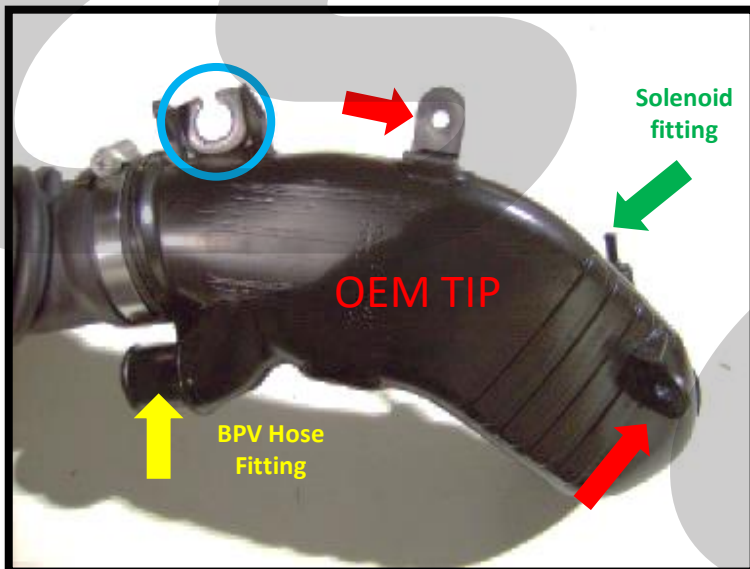

Figure 3b
- b) Remove the 10mm nut that holds the stock turbo inlet pipe in place (blue circle in Figure 3b).
- c) Remove the two wiring harness clips (red arrows in Figure 3b) located on the stock turbo inlet pipe.
- d) Using needle nose pliers, release the small spring clamp from solenoid fitting on the OEM TIP (see the green arrow in Figure 3b on the previous page). Then remove the small hose from this same fitting.